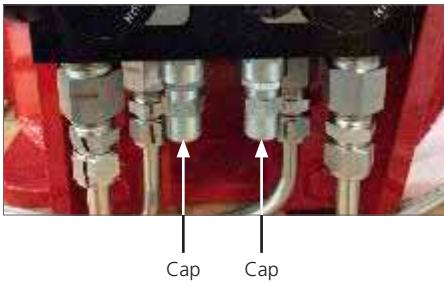

Fig 12.6 Flow regulator cap removal
- Remove the flow regulator caps by manually unscrewing them (see Fig 12.6)